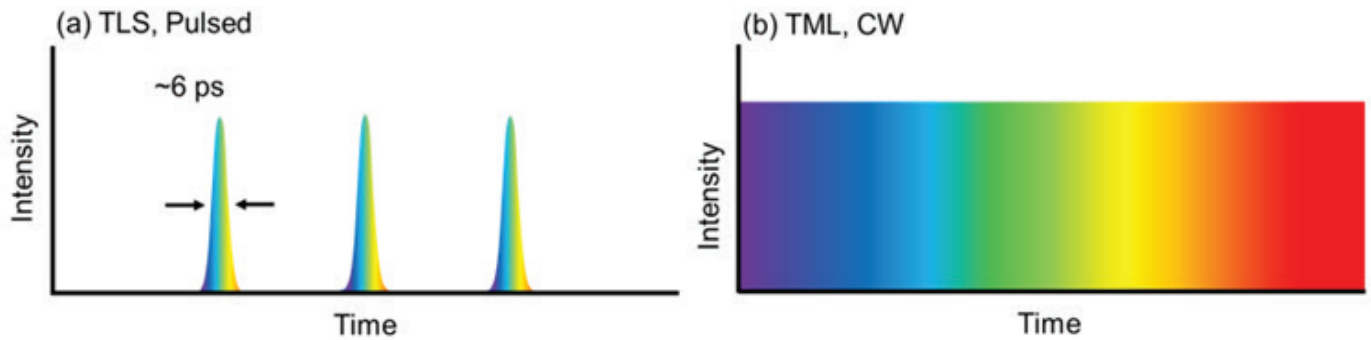

Figure 2. (a) Tunable light source (TLS) as a tunable pulse laser (b) Tunable mighty light (TML) as an imaging light source.
Spectrolight Inc. provides two types of tunable light sources, the Tunable Laser System (TLS) and the Tunable Mighty Light (TML). The difference between TLS and TML is that TLS uses a pulsed laser, and TML uses a continuous wave (CW) light source. (Figure 2). As a result, the output beam from TLS is coherent, whereas that from TML is incoherent. Thus, users can choose light sources according to their applications. If a supercontinuum laser is used, a pulse width of 100 ps can be obtained, which can be used for time-correlated single photon counting (TCSPC), enabling fluorescence lifetime imaging (FLIM).